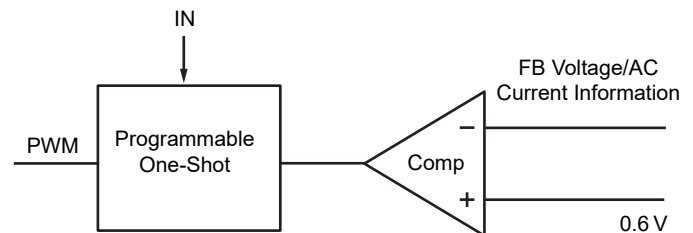

Figure 2. Simplified Control Schematic of AOZ2253LQI-30
The control algorithm of AOZ2253LQI-30 is constant-on-time PWM control with input feed-forward. The simplified control schematic is shown in Figure 2. The high-side switch on-time is determined solely by a one-shot whose pulse width is inversely proportional to input voltage (IN). The one-shot is triggered when the internal 0.6V is higher than the combined information of FB voltage and the AC current information of inductor, which is processed and obtained through the sensed low-side MOSFET current once it turns-on. The added AC current information can help the stability of constant-on time control even with pure ceramic output capacitors, which have very low ESR. The AC current information has no DC offset, which does not cause offset with output load change, which is fundamentally different from other V^2 constant-on time control schemes.